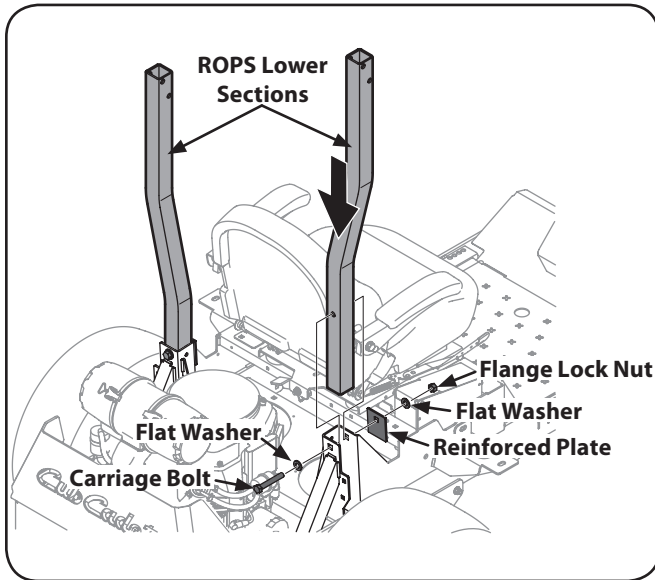

Figure 3-3
1. Insert each of the ROPS lower section tubular posts into the brackets welded to the machine main frame. See Fig. 3-3.
NOTE: The ROPS folding stop should be positioned toward the rear of the unit. See Fig. 3-3.
3. Install the reinforced plates, flat washers and flange lock nuts, but do not tighten. See Fig. 3-3.
6. Tighten the frame mounting hardware to 80-90 lb.-ft. torque. See Fig. 3-3.